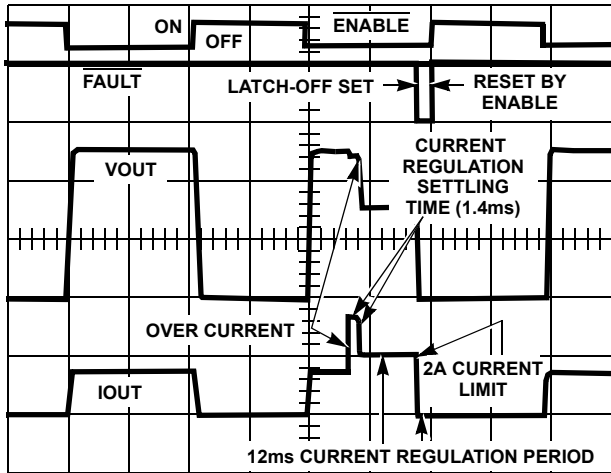
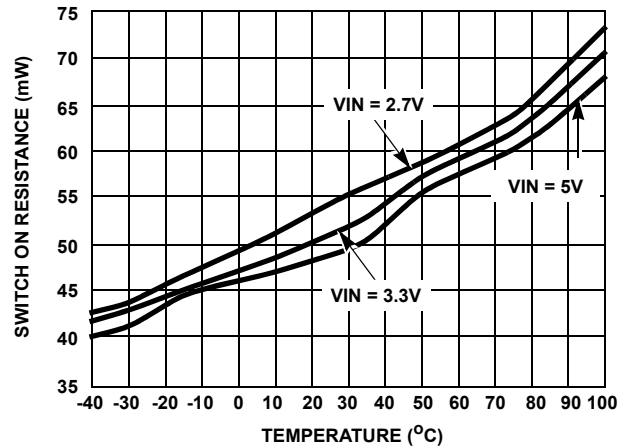

FIGURE 2. OPERATIONAL WAVEFORMS
FIGURE 3. SWITCH RESISTANCE AT 1A
The ISL6121 is a single channel Overcurrent (OC) fault protection IC for the +2.5V to +5V environment. Each ISL6121 incorporates in a single 8 lead SOIC package a 50m Ω N channel MOSFET power switch for power control. See Figure 3 for switch resistance curves. With an enabling input and fault reporting output compatible with 3V and 5V logic allowing for external control and monitoring. See Figure 2 for IC operational waveforms. This device features internal current monitoring, consistent current limiting and an integrated power switch with a current limiting timed delay to latch-off feature for system protection.